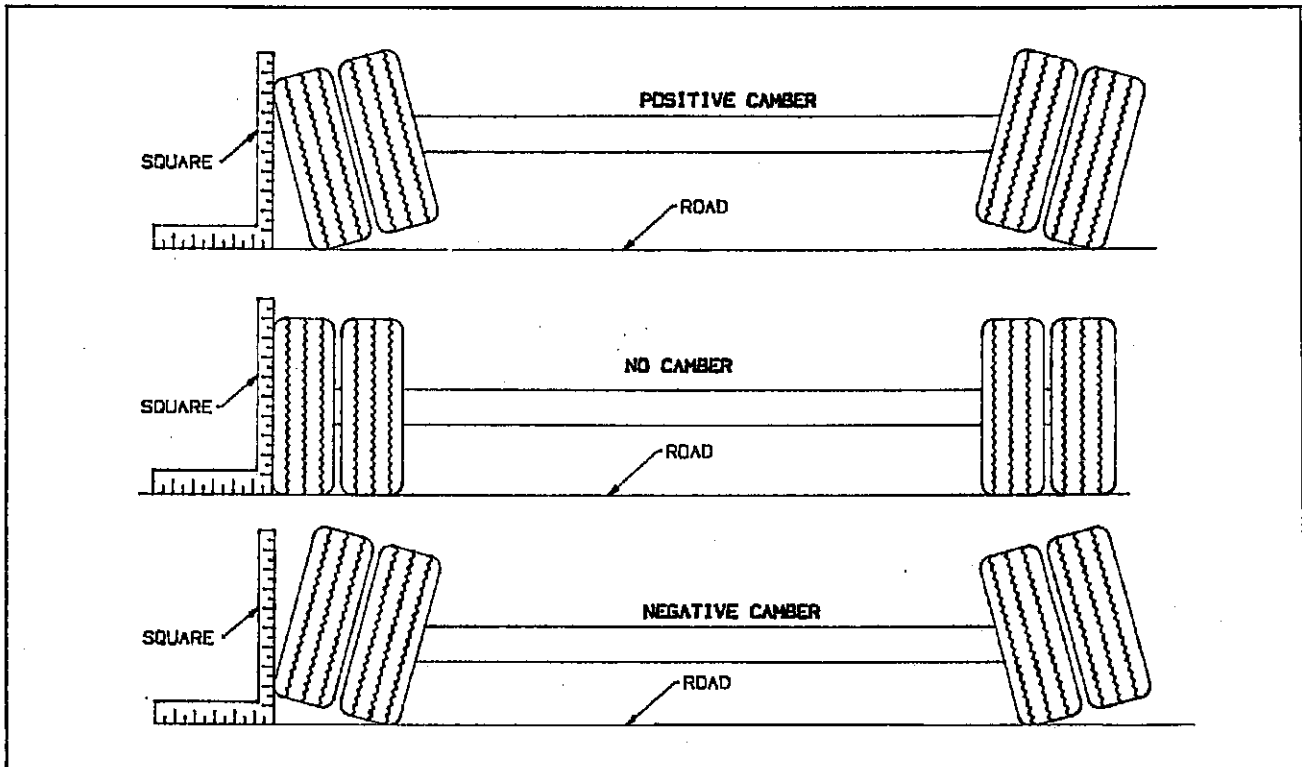

Fig. 4-9 Examples of Camber
d. Follow the same procedures as in Paragraph 4-8.1 b and c, except place the axle gauge above and below the axle. If gauge point gap is found, the axle has positive or negative camber. The semitrailer axle has no camber from the factory, thus if it is found to have positive or negative camber, axle replacement is necessary (see Figure 4-9 for examples of camber).